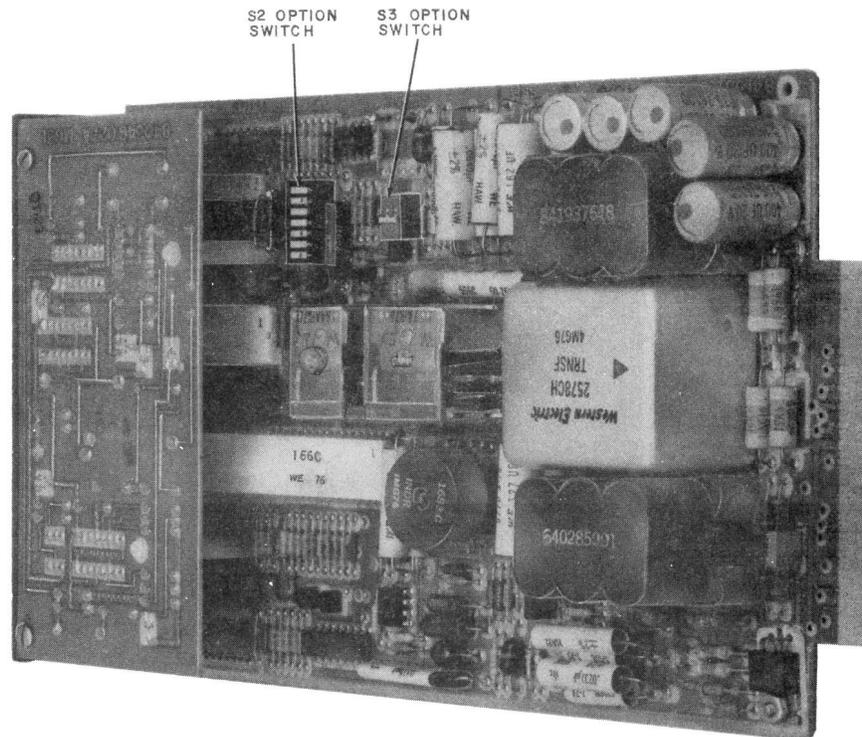

Fig. 1—DS 113DR-L1
2.01 DS 113DR-L1 must be removed from the mounting to be accessible (Fig. 1).